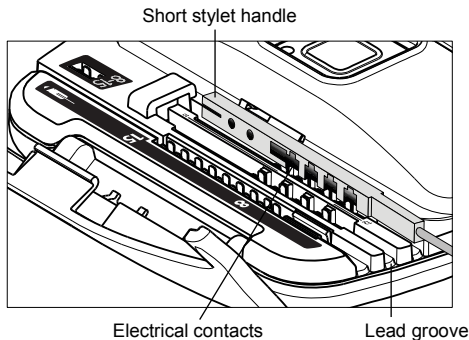

Figure 7. Align the lead contacts with the electrical contacts in the lead groove.
7. Check that the lead contacts align with the electrical contacts inside the lead groove and that the short stylet handle aligns with the stylet-shaped portion of the lead groove (Figure 7).